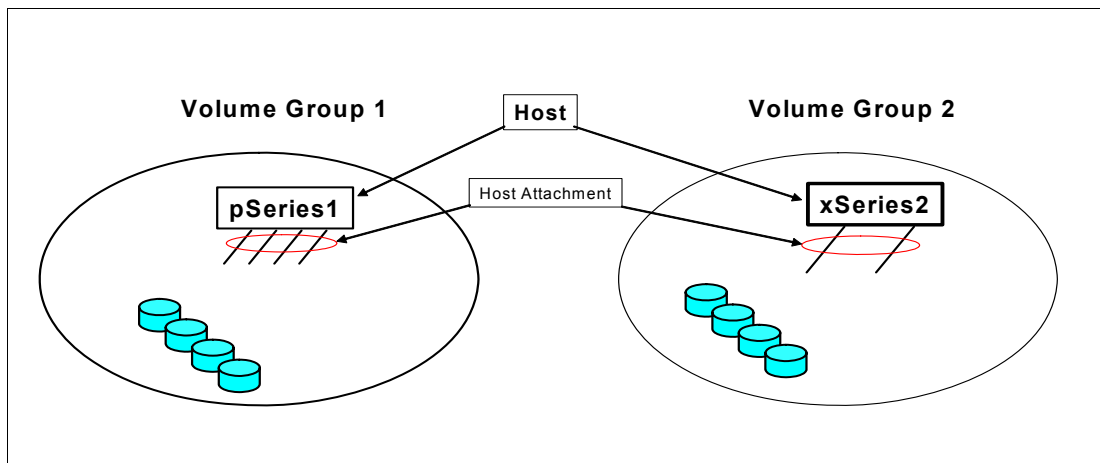

Figure 9-3 Diagram of the relationship of a host attachment to a volume group
- ▶ However, multiple host attachments, even different open system host types, with the same blocksize and addressing mode, can access the same volume group. The safest approach to this concept is to configure one host per volume group. If shared access to the LUN is required, for example, for dual pathing or clustering, then the shared LUNs may be placed in multiple volume groups as shown in Figure 9-3 on page 157.
In Figure 9-3, we show two volume groups, Volume Group 1 and Volume Group 2. A pSeries server with 1 host attachment (four ports grouped in that attachment) resides in Volume Group1. The xSeries2 server has 1 host attachment (2 ports grouped into the attachment). The ports are grouped together in one attachment definition, for example, the server, xSeries2, is dual pathed to the LUNs through one attachment group definition.